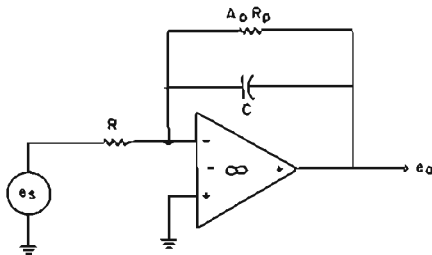

Figure 6. Integrator Low Frequency Equivalent Circuit
Insight is gained into the operation of integrators at low frequencies by realizing that (5) is equivalent to the response of an ideal integrator with an infinite gain and input impedance amplifier, but with a feedback resistor  $A_o R_p$  in parallel with the feedback capacitor as shown in Figure 6.
Intuitively it is apparent from Figure 6 that the effective leakage resistance,  $A_o R_p$ , due to finite voltage gain and input impedance tends to discharge any fixed voltage stored across the feedback capacitor. To develop a quantitative expression for this error, assume that the circuit in Figure 6 has the initial condition  $e_o = E_o$  and that  $e_i = 0$ . In this case, the output voltage is simply:
The effect of insulation resistance can be represented in Figures 6 and 9 as another resistance in parallel with  $A_o R_p$  or  $A_o R_d$  and the issuing equations are modified accordingly. The insulation resistance of the very best capacitors is about  $10^{12}$  ohms. By comparison a chopper stabilized operational amplifier will have open loop input impedance,  $R_d$ , of  $10^6$  ohms and open loop gain,  $A_o$ , of  $10^8$  giving an equivalent resistance of  $10^{14}$ . Even an inexpensive differential amplifier will have equivalent leakage resistance of  $10^{10}$  to  $10^{11}$  ohms. Thus we see that the capacitor and not the amplifier usually sets the limit on performance in this regard.